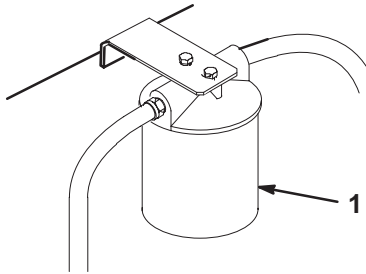

Figure 54
3. Place drain pan under filter, remove the old filter and wipe the filter adapter gasket surface clean (Fig. 54).